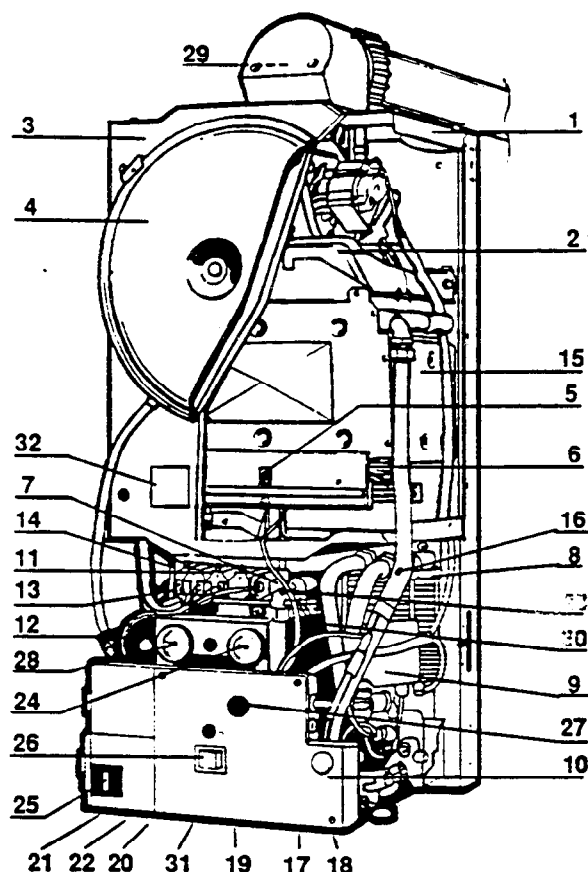
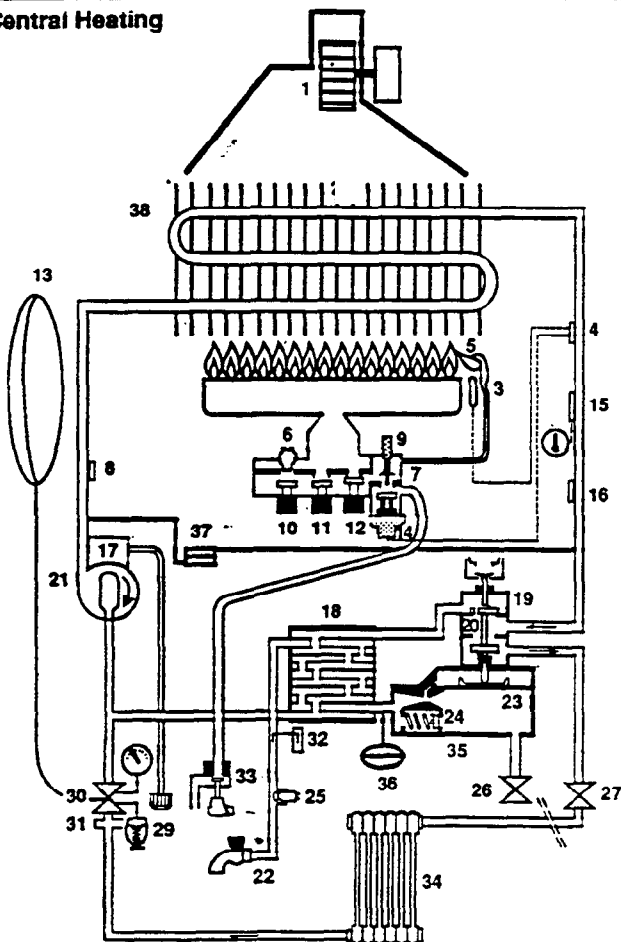

Fig. 4
Fig. 5
1.6.1 Central Heating (see fig. 5)
1.6.3 Gas (see figs. 5 and 6)
Should the central heating water flow reduce to below 300 l/h (1.1 gal/min) the gas supply to the burner is turned off, see fig. 4 (31) and figs. 5 & 6 (37).